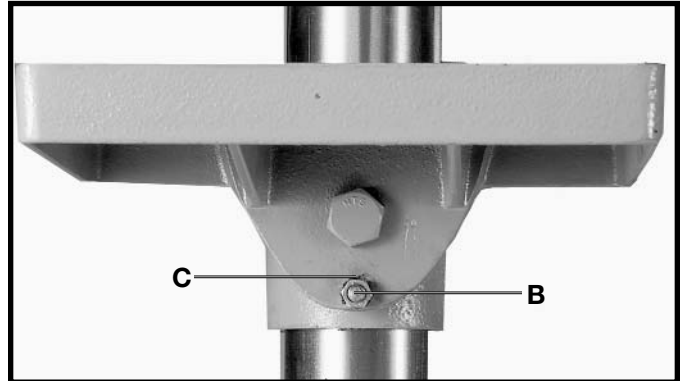

Fig. 18
2. The table can be tilted right or left by pulling out and removing table alignment pin (B) Fig. 18. **NOTE:** If pin (B) is difficult to remove, turn nut (C) clockwise to pull pin out of casting.